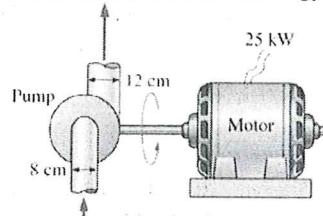

Figure 2
2. An oil pump is drawing 25kW of electric power while pumping oil with $\rho = 860 \text{ kg/m}^3$ at a rate of 0.1 m³/s. The inlet and outlet diameters of the pipe are 8 cm and 12 cm respectively (fig. 2). If the pressure rise of the oil in the pump is measured to be 250 kPa and the motor efficiency is 90%, determine the mechanical efficiency of the pump. Take the kinetic energy correction factor to be 1.05.